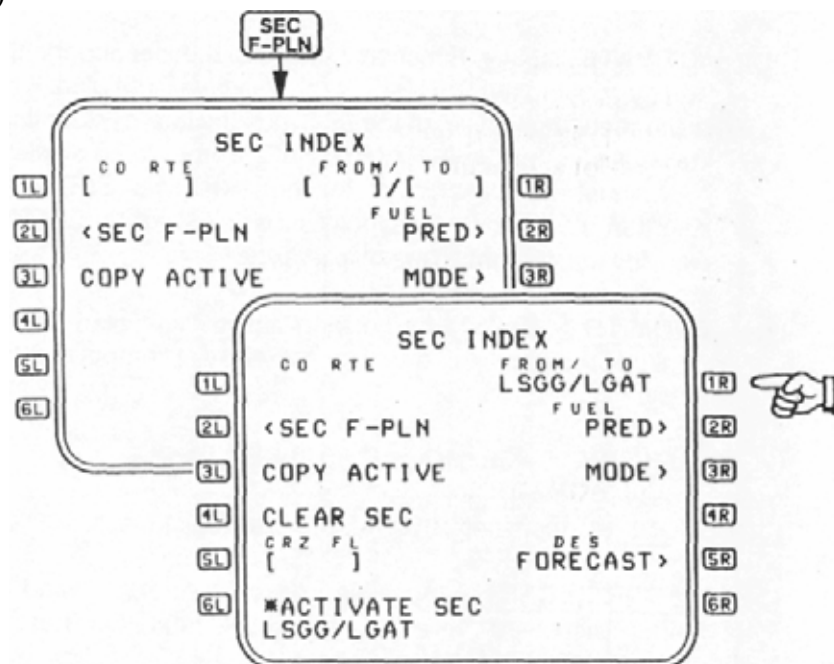
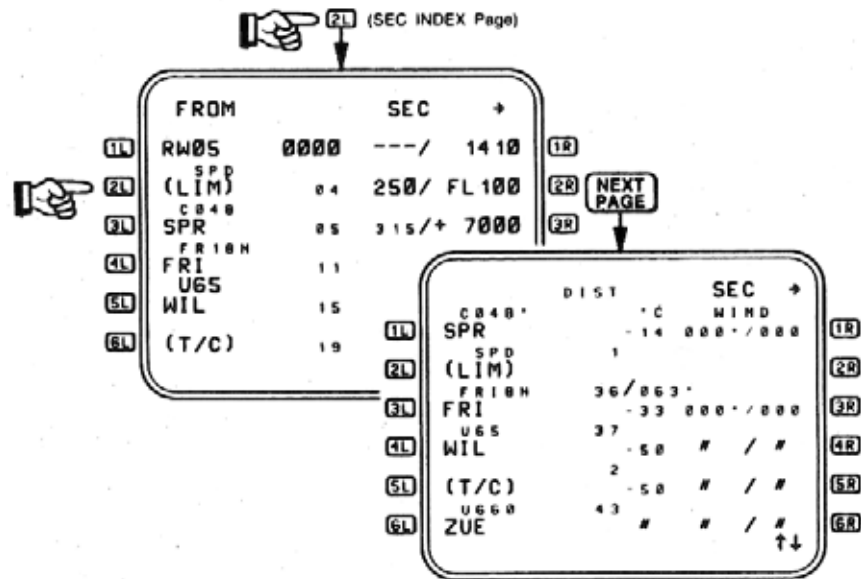

Figure 4-1
Figure 4-2
The SEC INDEX page provides access to the SEC F-PLN and functions related to it (see Figure 4.1)
1L CORTE - Field defaults to entry prompts ([]) when no CO RTE or FROM/TO is defined. If any modification to the CO RTE is made, this field is blanked (see Figure 4.1). If the active flight plan is copied into the SEC F-PLN, then the CO RTE is reflected here if it exists in the active F-PLN.
2L SEC F-PLN - Accesses SEC F-PLN page A Figure 4-1.
- 3L** **COPY ACTIVE** - Copies Active flight plan into the secondary flight plan. See Figure 4-1.
- 5L** **CRZ FL** - Displayed only if there is at least one waypoint in the SEC F-PLN. Pilot alterable. (See Figure 4-1.)
Pressing **2L** in Figure 4-1 accesses the SEC F-PLN page A (see Figure 4-2). SEC F-PLN page B is accessed via the **PAGE** function key. All LSKs function identically to the active F-PLN LSKs except that EOSID is not available for selection and the asterisk (*) is not displayed. Vertically, TO/APPR parameters, MDA and MAX SPD are assumed to be identical to the active flight plan and cannot be changed in the SEC F-PLN. CRZ ALT is entered on the SEC INDEX page instead of INIT Page A and the MODE select is made via LSK **3R** on the SEC INDEX page.